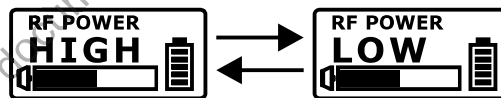

Fig. 14
(E) RF POWER: RF Power Setting. Fig. 14
- (1) Select HIGH or LOW.
- (2) HIGH has 50mW transmitting power. LOW has 10mW transmitting power. Set appropriate power to meet region/country regulations.